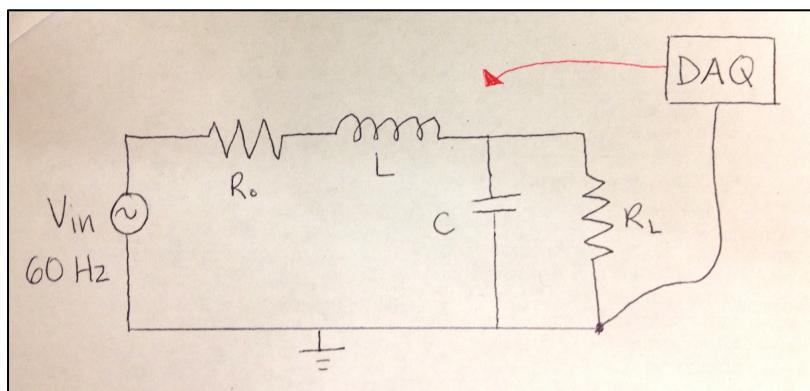

Figure 1: Testing Circuit
- 1.2 The test setup is presented in Figure 1. The test procedure will focus on the Data Acquisition (DAQ), transmission lines, and variable load circuit. A signal generator will supply power to a transmission line, which passes the power onto the resistive load. Meanwhile, the DAQ measures the AC sine wave at various points along the circuit. Although this setup is implemented in a simple form this test will confirm whether our basic arrangement is successful and prove the concepts that will be employed in the final design.
- 2.1 This deliverable is essential because it validates the fundamental engineering design of the grid test facility. The final circuit will be far more complex than that seen in Figure 1, but the roots will remain unchanged, with an overall system of generation to transmission to load, with DAQ scoping various points along the network.
- 3.1 The overall setup should correspond with the one denoted in Figure 1. A waveform generator connects directly to the transmission line, which has a resistor, inductor, and capacitor in series, along with a load in parallel with the capacitor. Figures 2 and 3 show what this arrangement may look like.
4.2 For testing the DAQ, the ground of the DAQ should be connected to the ground of the circuit (See Figure 1). Then, the other DAQ port should probe various points throughout the grid network. This can be done by simply connecting the red lead to a part of the circuit, running the DAQ script, and observing the MATLAB output.